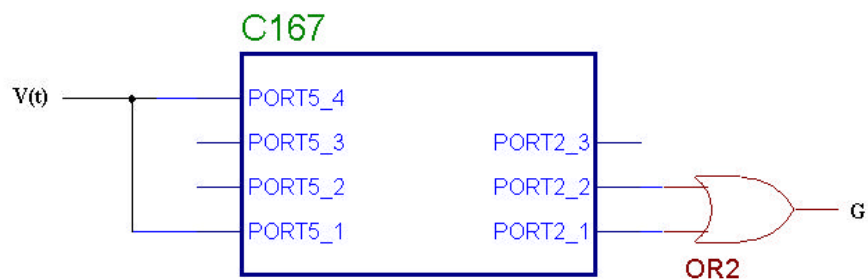
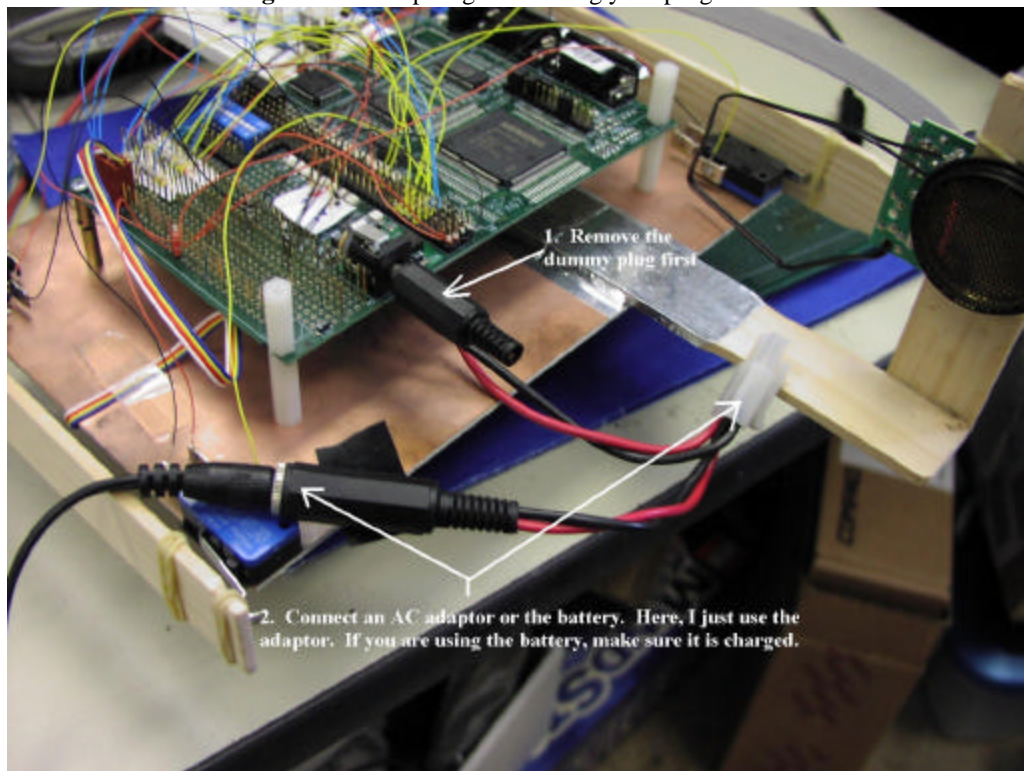
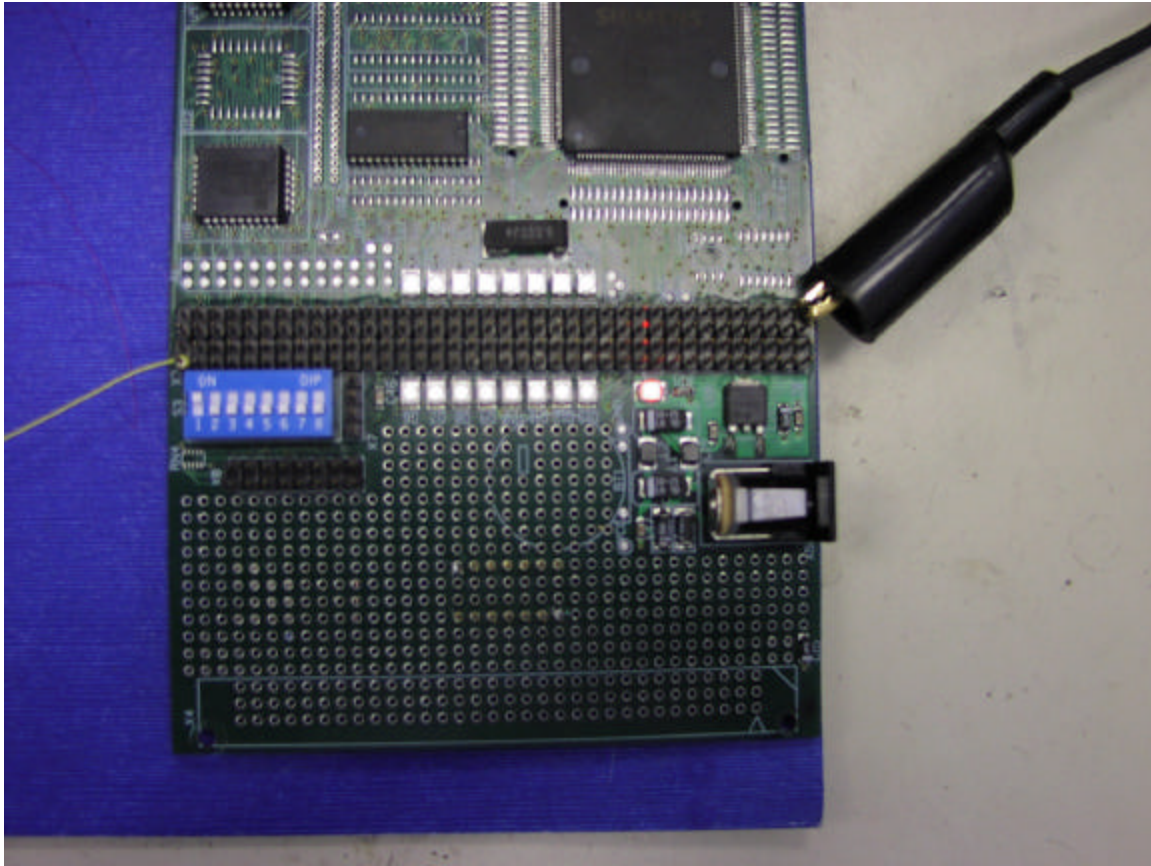

Figure 2. Microcontroller ports
Figure 4. Power supply connections
Figure 5. The red power LED turns on indicating the board is receiving power
The numbers in parentheses on the right of the code are line numbers inserted by me for reference. Look at lines (2) and (3). These two lines are fundamental to programming the C167² and it involves a central microcontroller concept called ports. Figure 2 shows how ports help a microcontroller talk to the outside world.
You can think of a port as a gateway for data flow (hence the name, “port”). Data can either come into the microcontroller from a port, or flow out of a microcontroller through a port to the outside world. For instance in figure 2 above, port 5 is configured as an input port and port 2 is configured as an output port. Data comes into the microcontroller as a time varying voltage, $V(t)$. Analog to digital converters (A/D converters) in the C167 convert this analog voltage into digital data. The C167 then operates on this digital data and the result is sent to an OR gate through port 2.
Before we move on, look closely at figure 2. Can you spot the redundant component in figure 2? How could you avoid using it?
The OR gate in figure 2 is redundant. Instead, you could just write an if statement in your C program to test if Port2_1 OR Port2_2 is logic 1. (more on the if statement in chapter 5). This is the main reason for using digital control – avoiding hardware redundancy. Suppose you wanted to check for the condition: Port2_1 AND Port2_2. If you had used the external OR gate, then you probably would have to unsolder the OR gate and put an AND gate in its place. With software its easy, you just change the clause in the if statement to an AND.
Among these components are 18 LEDs (light emitting diodes) out of which you can use 16⁴. Figure 2 in chapter 2 shows the location of these LEDs, which I refer to as “status LEDs”. As the name implies, an LED emits light when turned on. What makes the 16 status LEDs so special? They are connected to port 2 of the C167 through the KitCON connector!
In order to actually download the program, make sure your serial cable is connected to the RS-232 (serial interface) port of the KitCON, refer to figure 2 in chapter 2. Once you have done this, turn on the KitCON-167. Insert the adaptor to the connector and make sure the dummy plug is removed, as shown in figure 4. Once you remove the dummy plug, the power LED should light up as shown in figure 5.